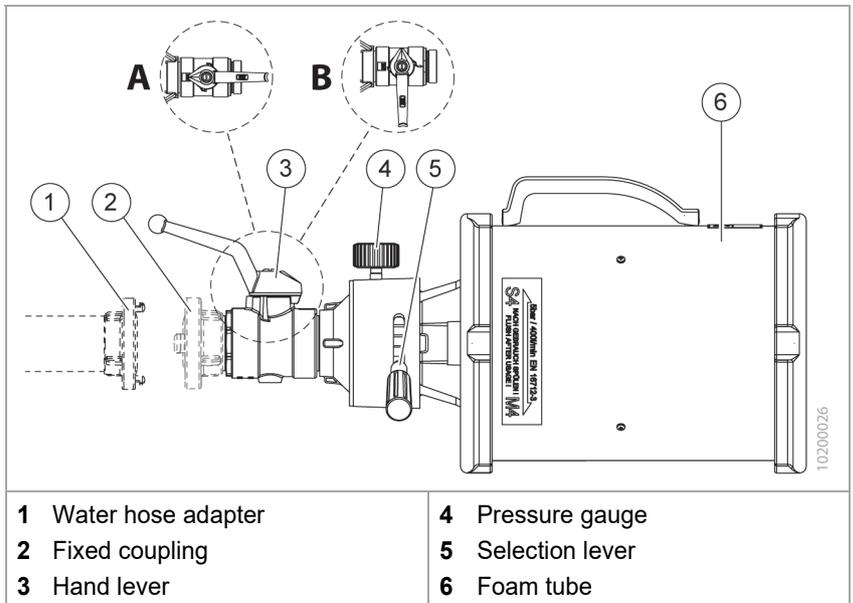

Fig. 2 Handling
- ✓ The hand lever is closed (Fig. 2/B).
1. By hand or with the use of a coupling spanner, attach the coupling of the water hose (Fig. 2/1) to the coupling on the foam nozzle (Fig. 2/2).
1. Point the foam nozzle (Fig. 2/6) at the source of fire.
3. Open the foam nozzle by turning the hand lever (Fig. 2/3) longitudinal to the direction of flow of the water.
1. Close the hand lever (Fig. 2/3) crossways to the flow direction of the water.
5. Shut off the water supply and, by hand or with the use of a coupling spanner, detach the coupling of the water hose (Fig. 2/1) from the fixed coupling on the foam nozzle (Fig. 2/2).